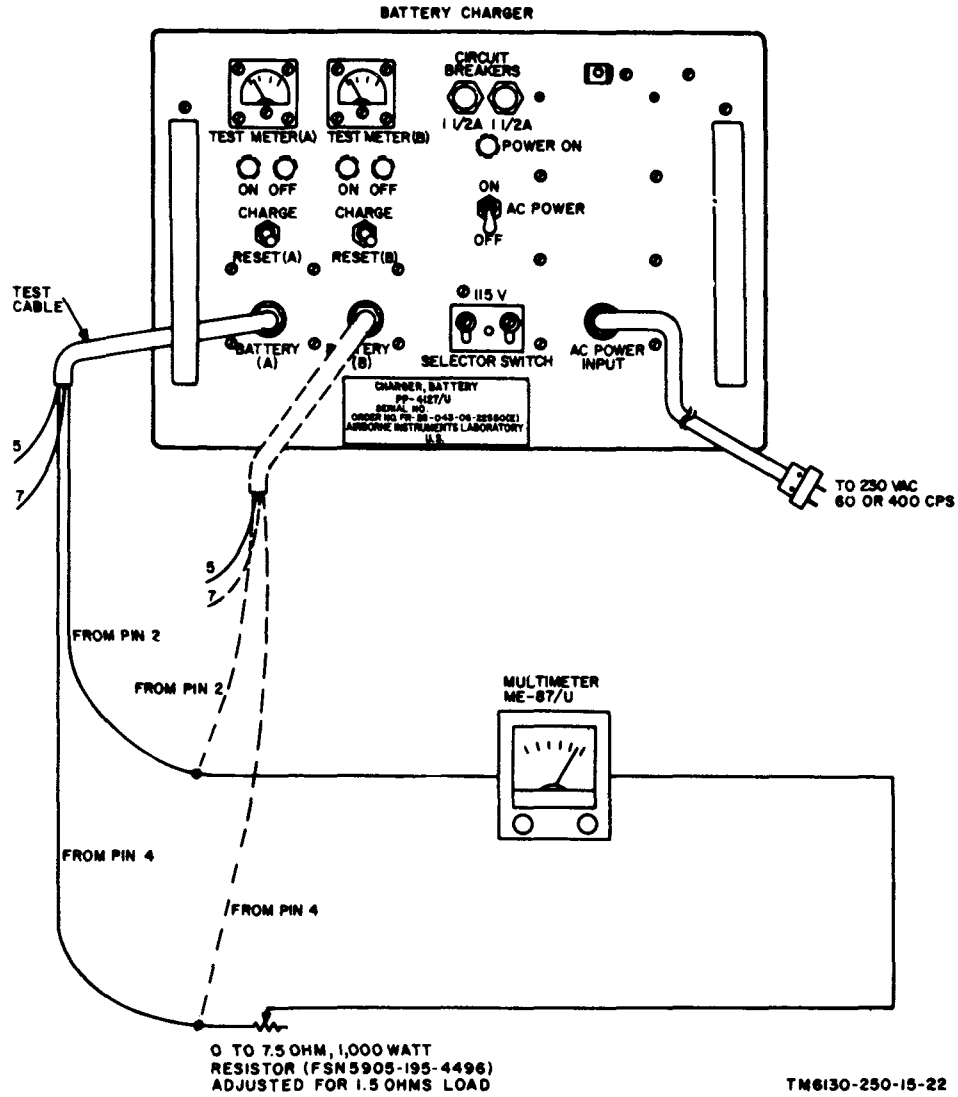

Figure 7-2. Charging current test, 230 volts ac, 60 or 400 cps.
- (1) Multimeter ME-87/U.
- (2) Test cable (para 5-2h).
- (3) Resistor, Variable 0- to 7.5-ohm, 1,000-watt.
b. *Test Connections and Conditions.* Connect the equipment as shown in figure 7-2. The resistor, variable (0- to 7.5-ohm) should be adjusted for a 1.5-ohm load resistance.